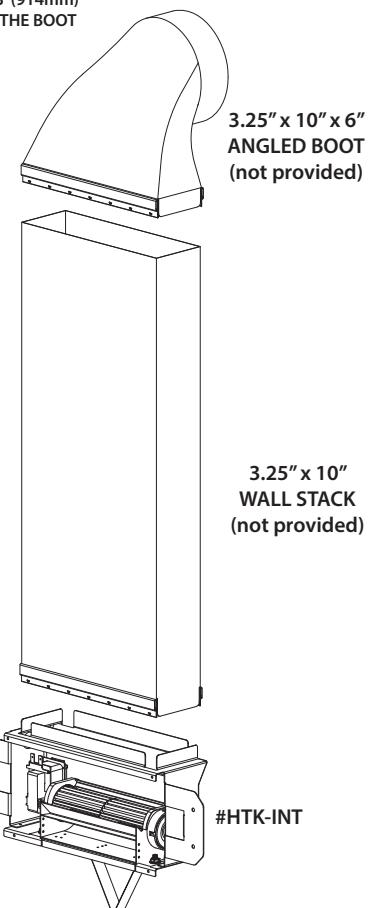

Figure 1.6, HTK-INT Wall Stack (optional installation)
- Figure 1.6 shows an optional installation method of using 3.25" x 10" wall stack with S cleats attached to the air discharge box. The figure also shows an angled 3.25" x 10" x 6" boot that may be needed for certain installations. The wall stack application has to start after achieving the minimum 3' (914mm) run of insulated flex pipe to the boot. The wall stack is 0" (0mm) clearance to combustibles. The wall stack and angled boot are not provided.